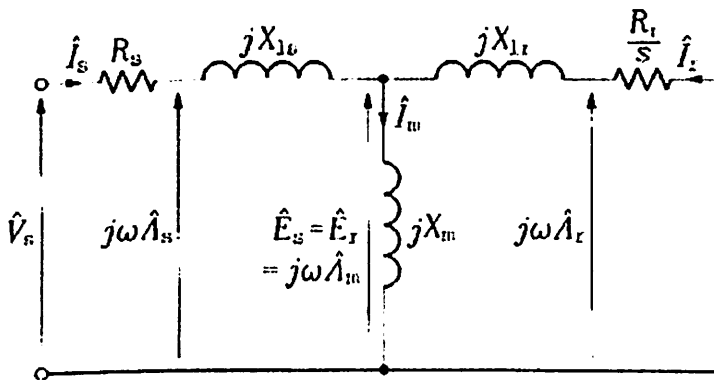
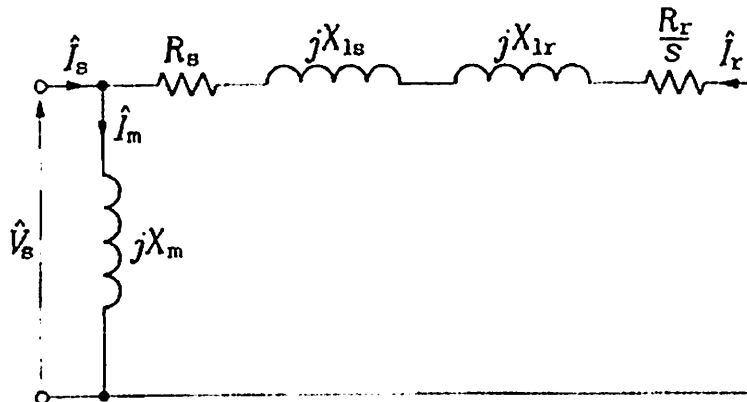

Figure 1: Per-phase equivalent circuit of the induction motor with rotor parameters referred to the stator side.
Figure 2: Approximate per-phase equivalent circuit of the induction motor.
This motor can be represented by the per phase equivalent circuit diagram in Figure 1 with rotor quantities referred to the stator side.
The per-phase equivalent circuit in Figure 1 can be further approximated by an approximate equivalent circuit shown in Figure 2.
- (A)** Based on the equivalent circuit diagram of Figure 2, determine the following for this motor;
- (B)** The motor defined above is to be operated under 50Hz rated frequency. Determine the following under this condition
To analyse the behaviour of the motor given in Question for scalar method of control, it is convenient to transform the per-phase equivalent circuit of Figure 1 into a “Two-Inductance Equivalent Circuit”.
- (A) Draw a Two-Inductance Γ -model of the induction motor represented by the per-phase equivalent circuit of Figure 1. All equivalent circuit parameters must be appropriately labelled.
- (B) Assuming the motor in Question One is to be operated at 50 Hz rated frequency, determine the following Γ -model parameters referred to the stator side;
- (vii) The rotor current. Use the appropriate value of the flux calculated in Question Two (B)